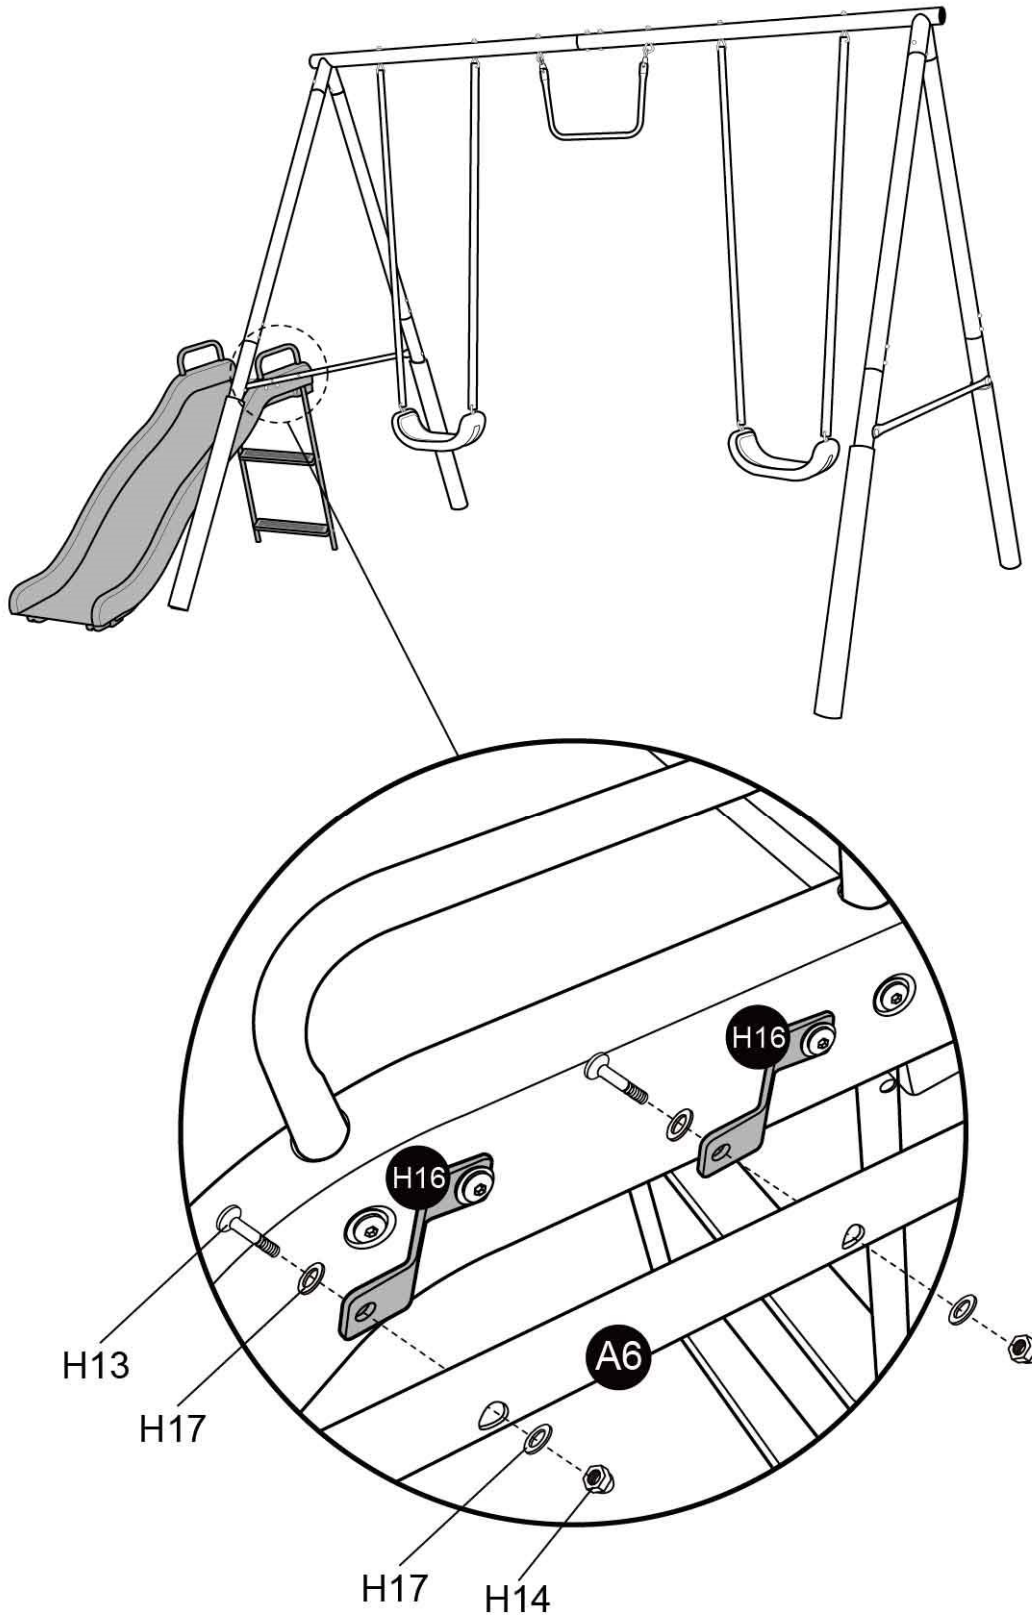

FIGURE12
- Attach the slide to the swing set by securing H16 to A6 using H13, H17, H17 and H14 as shown in FIGURE 12 for both brackets.